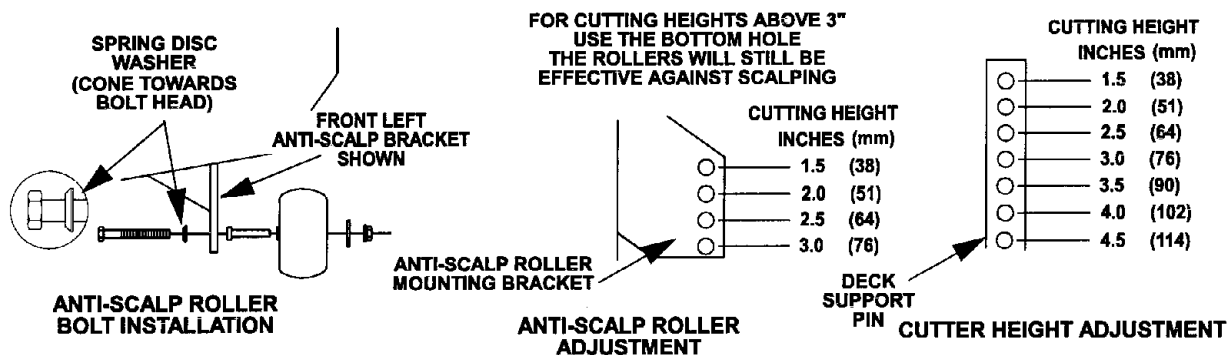

FIG 11
- Install hairpin clips in the holes shown on sketch below for the desired cutting height (See Figure 11).
- For maximum deck flotation, rollers should maintain 1/4 in. (6.4 mm) clearance to ground. **Do Not** adjust rollers to support the deck. Be sure roller bolts and nuts are installed with the spring disc washer between head of the bolt and mounting bracket (See Figure 11). **Torque to 40-45 ft-lbs., or loss of roller may result.**
- When operating in extremely rough conditions it may be necessary to position the anti-scalp rollers one or two holes higher than described in "b" to prevent damage to the rollers and/or bolt failure (See Figure 11).